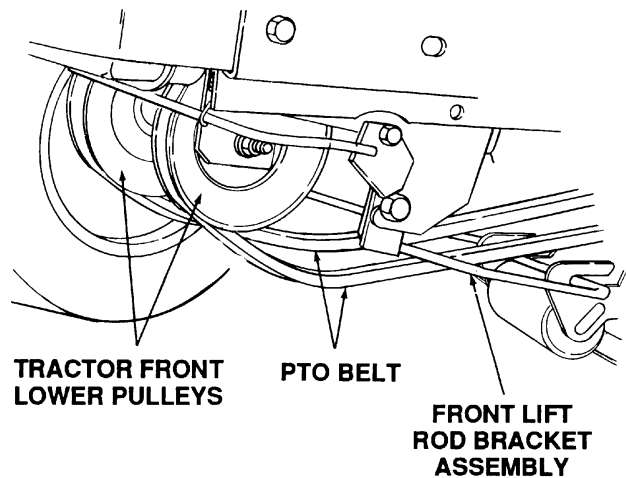

Figure 51
- Pass the PTO belt downward, inside the tractor frame, until the belt is below the two tractor front lower pulleys and pull the belt clear of the tractor (Refer to Figure 51).